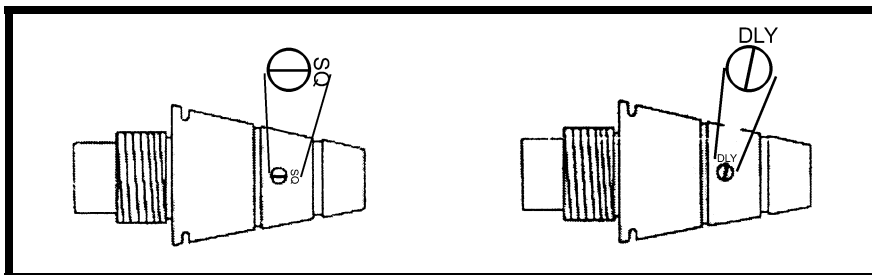

Figure 7-19. Setting the M935 PD fuze.
a. **M935 PD Fuze** (Figure 7-19, page 7-38).
- (1) Superquick setting.
- (2) Delay setting.